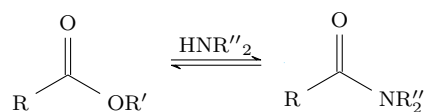

Figure 4.33: Acyl transfer: Ester to amide.
3. Esters have three important reactions: Hydrolysis (Figure 4.26), transesterification (Figure 4.29), and amide formation (Figure 4.33).